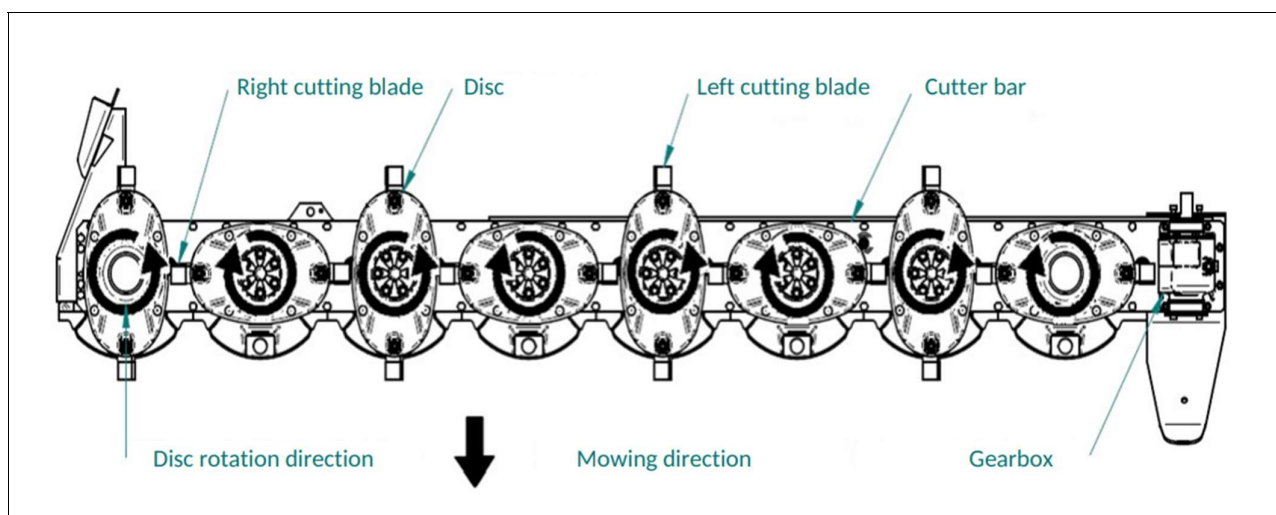

Fig. 20 The layout of the blades depending on the rotations of the discs (view from above)
- Loosen the screws (2), and then remove the disk cap, disk, holder and cutters (3)
- Unscrew the nut (4) and remove the washer (5) and both upper hubs (6,7),
- proceed to reassembly, first connect the two hubs (6,7), using spring pins (1),
- put the connected hubs on the bearing unit, install the washer (5) and tighten the nut (4) (tighten the nut with a torque of 320 Nm, in addition, use thread glue),
- maintain the correct position / orientation of the disk as before disassembly in accordance with Figure 20.